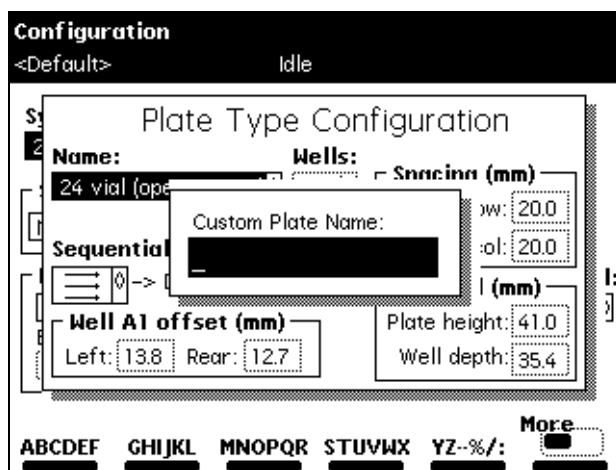

Figure 3-13 Custom Plate Name Dialog Box
1. In the Plate Type Configuration dialog box, press the **Copy** screen key to display the Custom Plate Name field (Figure 3-13).